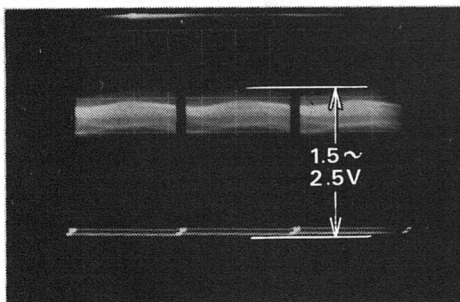

Fig 7.13
- (1) Connect the oscilloscope probe to terminal TP-1 on the Video Process PCB (CA 1501A)
- (2) Shoot the white pattern while releasing the iris control mechanism (at an illumination intensity of over 2500 lux)
- (3) Adjust R12 **BIAS** volume on the Def and Power PCB (CA 4501A) until the voltage is between 1.5V and 2.5V, as shown in Figure 7.13. In this instance, confirm that the amplitude of the waveform does not vary (without return) even though the iris control mechanism on the lens is slightly closed from the released point.
- (1) Effect the procedure detailed in Section 7.2.6.2
- (2) Adjust R12 **BIAS** volume until the amplitude of the waveform shown in Figure 7.13 is 2V.